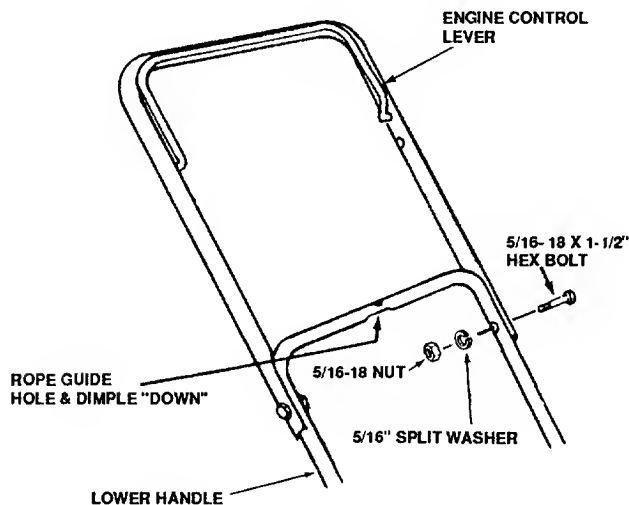

FIGURE 3.
1. Position lower handle so rope guide mounting hole and dimple, on handle cross bar, are facing downwards. See figure 3.
1. Position upper handle assembly so the engine control lever is on top side of the handle and attach to lower handle with (2) 5/16-18 x 1-1/2" hex head bolts, 5/16" split washers and 5/16-18 nuts. See Fig. 3.